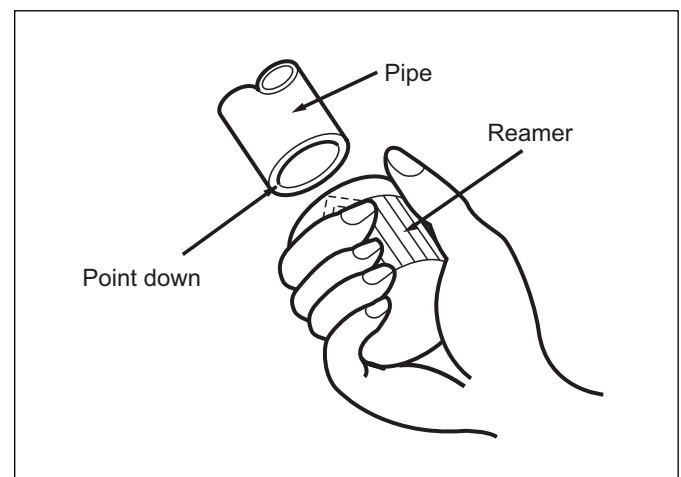

Figure 47
3. Place flare nuts on both ends of pipe. Make sure they are facing in the proper direction, because you can't put them on or change their direction after flaring. See Figure 47.